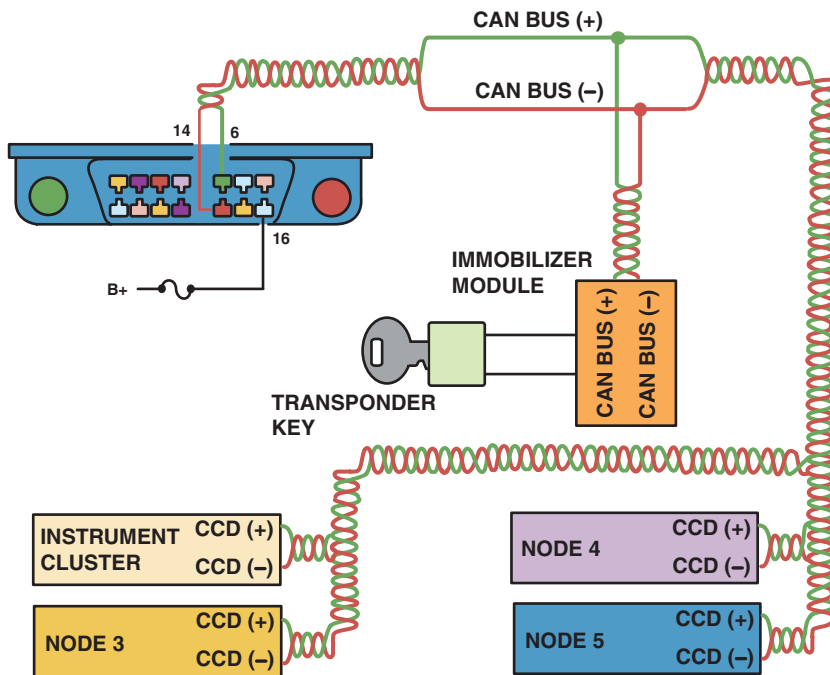

FIGURE 12-20 A typical (generic) system showing how the CAN BUS is connected to various electrical accessories and systems in the vehicle.
- **CAN C.** This class is the highest speed CAN protocol with speeds up to 500 Kbs. Beginning with 2008 models, all vehicles sold in the United States must use CAN BUS for scan tool communications. Most vehicle manufacturers started using CAN in older models, and it is easy to determine if a vehicle is equipped with CAN. The CAN BUS communicates to the scan tool through terminals 6 and 14 of the DLC, indicating that the vehicle is equipped with CAN. ● **SEE FIGURE 12-20.**